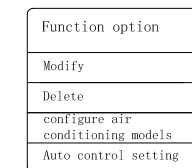
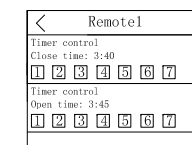

Fig. 7
Fig. 8
- a. Press and hold the remote ID to access a pop-up box as Fig. 7. Set up auto control setting, and check the preset automatic control task as Fig. 8.